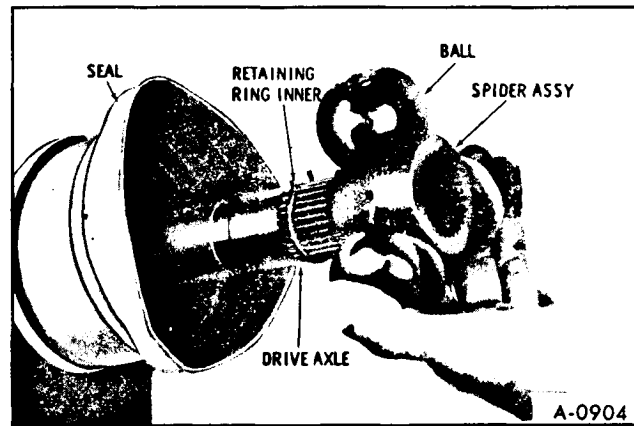

Figure 23—Removing Spider Assembly
5. Slide spider assembly from axle shaft. (figure 23)
4. Using Lubricant, No. 1050802, or equivalent load balls (three) with the needle bearings (53 to each ball). (figure 23)